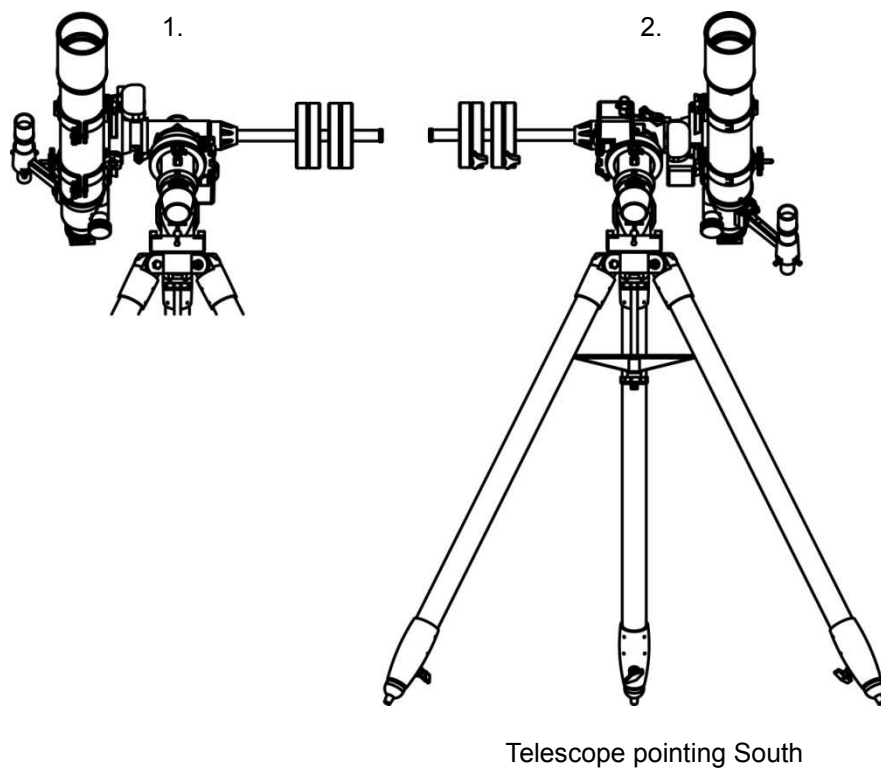

Fig 21
2.3.4 Pointing at an object (fig 21)